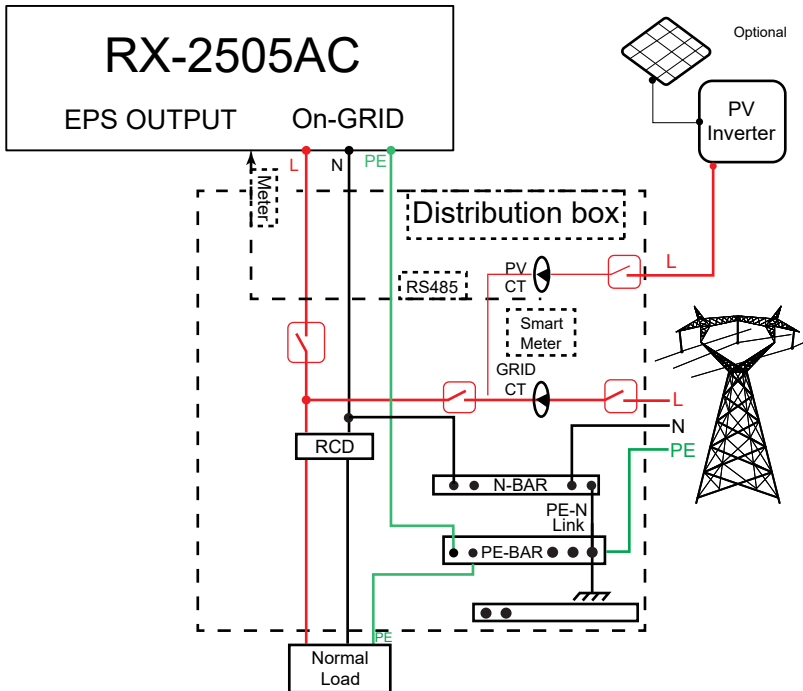

Figure 5-8 – 240V connection diagram On-grid only (no EPS backup)
- 1.If you only use the grid-connection function, connect it to the grid terminal as shown in Figure 5-8 and do not connect anything to the EPS terminal.